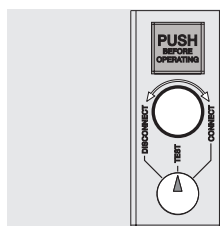

Figure 64
- circuit-breaker in test position (see Figure 64).